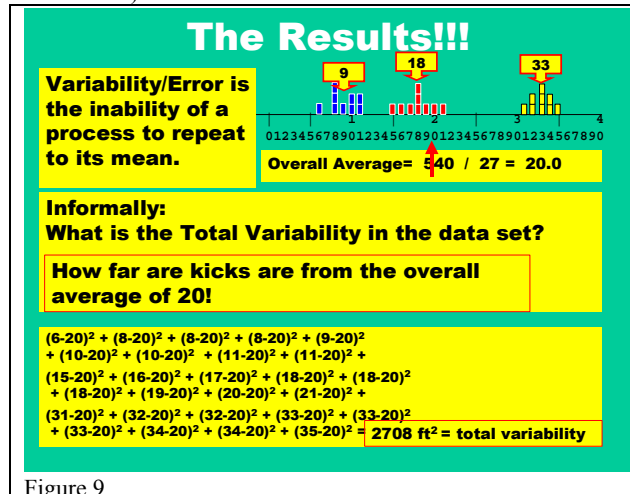
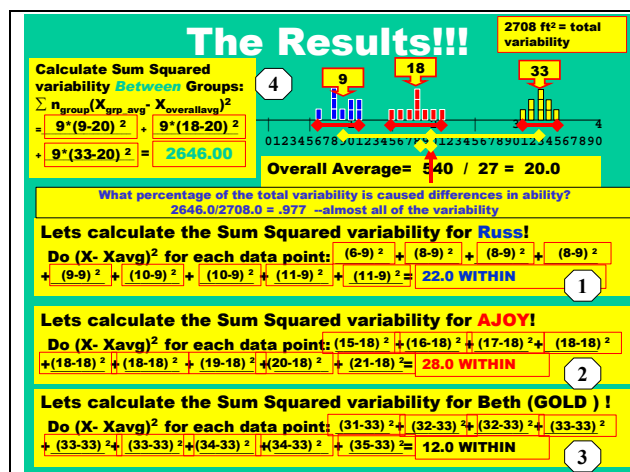

Figure 9
Figure 11
In Figure 9 we calculate the total variability in the data set. The TOTAL variability in the data set is the summed squared distance of each observation from the overall mean of the data. Total Variability measures the players’ inability to kick to the *overall average of the data*. The basis for ANOVA (ANalysis Of VArability or ANalysis Of VAriance) is to take the total variability and split into two parts – “within competitor variability” and “between competitor variability”.
The mathematical model  $Y_{ij} = \mu + \alpha_i + \epsilon_{ij}$  can be translated into numbers [Labels (3) (4)] in Figure 9 and into pictures [the red and yellow lines in Figure 9]. We can apply the mathematical model for ANOVA to my worst kick and get  $6 = 20 - 11 - 3$ . The 14 foot difference from the mean (total variability) has been partitioned into between [-11] and within [-3] error.
Figure 11 shows the calculations [labels (1) (2) (3)] for variability within the contestants (also called variability within groups). These calculations involve all the observations in the data set. The calculations are similar, in structure, to the calculation for total variability.
The calculation for variability caused by between contestant differences (4) is a bit more complex but has a similar structure. If the calculation in figure 11 does not make sense, just remember that we are splitting total variability into two parts- within and between. We have already calculated total (2708 in Figure 9) variability and within (22+28+12=62 in Figure 11) variability. Since we are splitting total into two parts we could subtract and back into the number by calculating:
Please note, in Figure 11 [calculations Labeled (1) (2) and (3)], that each observation (unless it is exactly on the mean) makes a contribution to variability. The contribution of an observation to variability is either 0 or positive. So, the more observations a data set has, the larger we expect the total variability to be. This difference in number of observations is a problem with the using the results of the calculations in Figure 11.